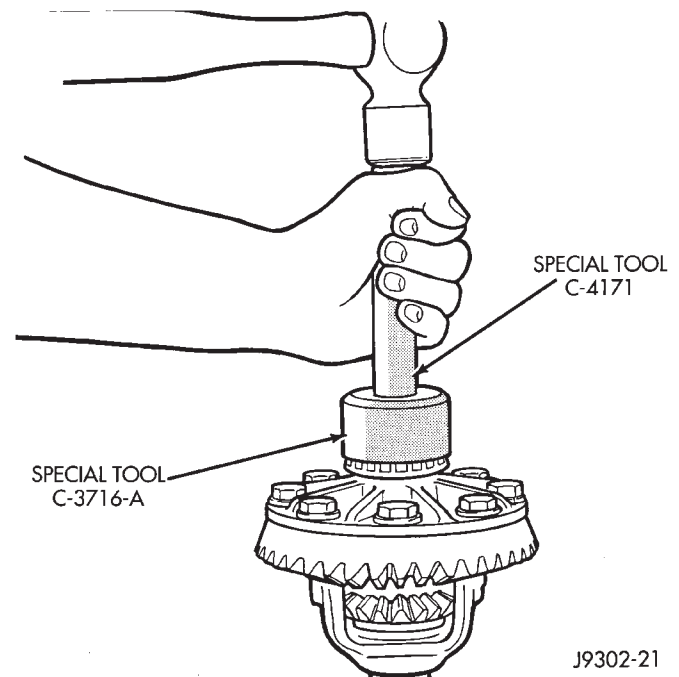

Fig. 41 Differential Side Bearing Installation
- (2) Using Installer C-3716-A and Handle C-4171, install differential side bearing (Fig. 41).